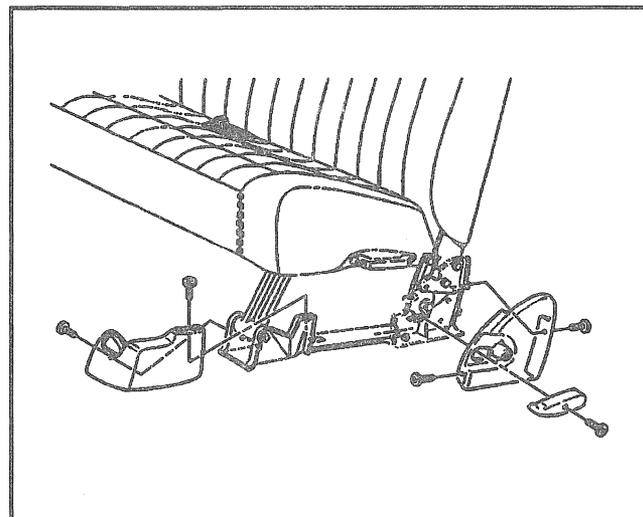

Figure 10—Folding Intermediate Seat Trim Covers (Utility)
1. Front and rear leg trim covers and (Figure 10).
- 3. Front and rear leg trim covers (Figure 10).